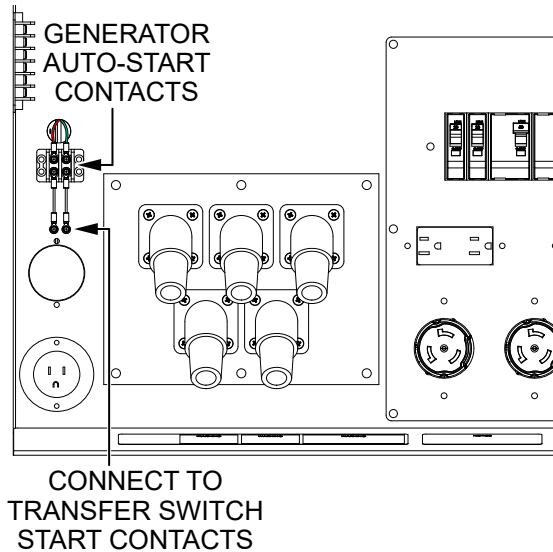

Figure 115. Auto-Start Contacts
- When the generator is connected to a building's AC power source via an **automatic** transfer switch (ATS), and the building's power has been interrupted (power outage), the ATS will start the generator automatically via the generator's auto-start contacts connected to the ATS's start contacts (Figure 115). If the generator is connected via a **manual** transfer switch (MTS), close the switch manually to start the generator.